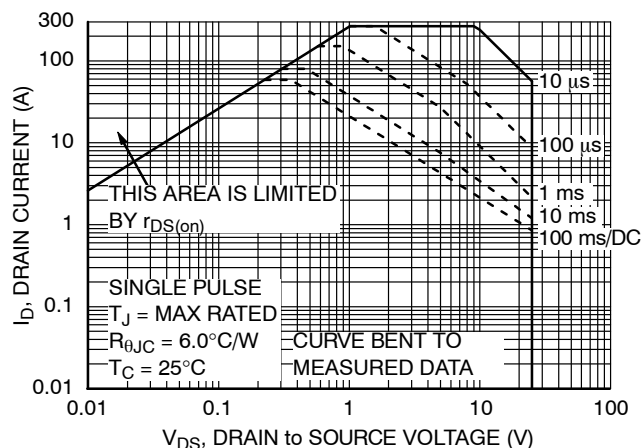
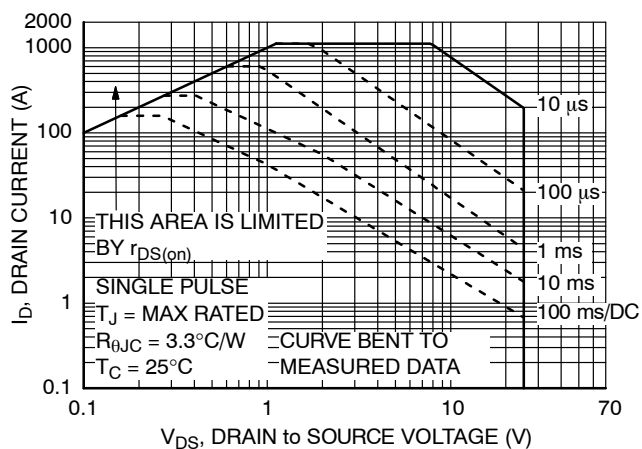

Figure 11. Forward Bias Safe Operating Area
Figure 24. Forward Bias Safe Operating Area
- Pulsed I_D please refer to Figure 11 and Figure 24 SOA graph for more details.